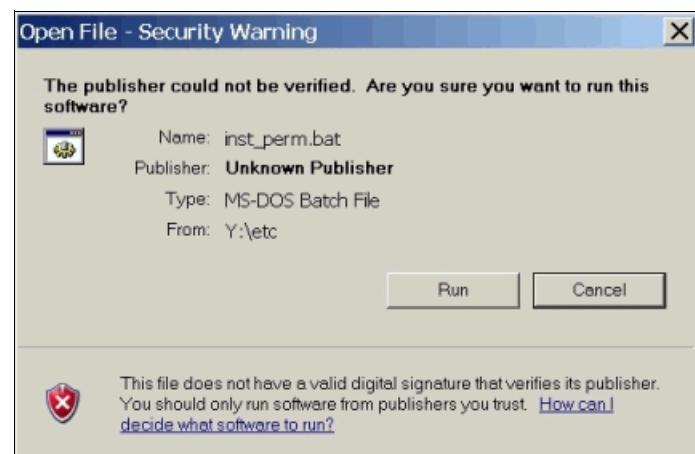

Figure A-8 Script installer
- f. Run the script installer (Figure A-8).